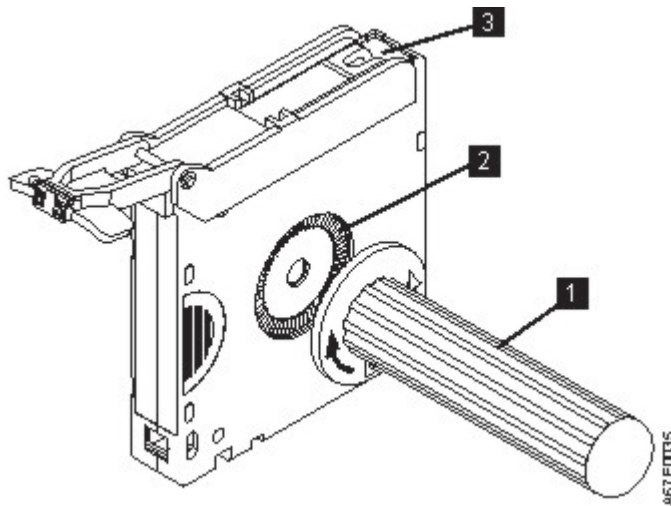

Figure 107. Winding the tape out of the cartridge
2. To find the end of the tape inside the cartridge, attach the cartridge manual rewind tool (1 in Figure 107 on page 227) to the cartridge's hub (2) by fitting the tool's teeth between the teeth of the hub. Turn the tool clockwise until you see the end of the tape inside the cartridge. Then, slowly turn the rewind tool counterclockwise to bring the tape edge toward the cartridge door (3).